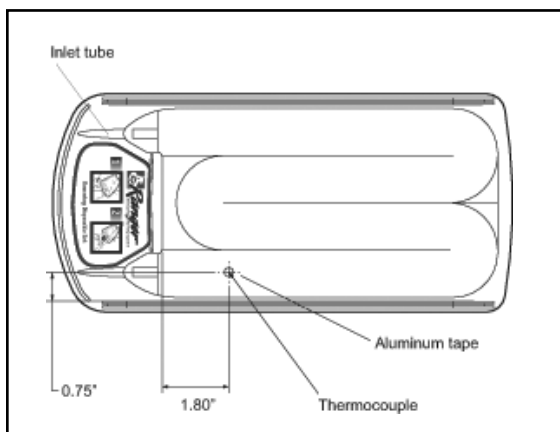

Fig. 1: Ranger standard fluid warming cassette
1. Use aluminum tape to affix a thermocouple to the top surface of the Ranger warming cassette as shown in Figure 1.